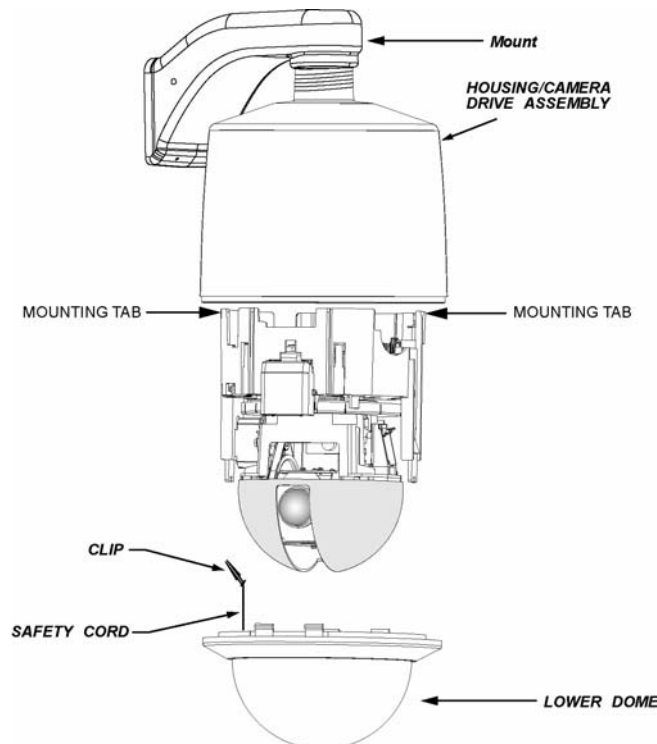

Figure 10
After all the cabling is complete, push the SurveyorVFT camera mechanism straight up into the housing. Align the 2 slots on the camera mechanism with the tabs in the enclosure, being sure to match up the arrows on both the mechanism and in the enclosure. Insert the camera mechanism into the enclosure until it snaps into place. Refer to Figure 10.
After the camera/lens is properly adjusted, the lower dome can be installed. Lift the lower dome up to the SurveyorVFT and insert the clip of the safety cord from the lower dome into the hole provided on the inside of the housing to anchor the lower dome. See label inside housing. Holding the lower dome, align the two (2) molded tabs on the lower dome with the recesses on the inner enclosure. Press the lower dome into the SurveyorVFT and verify that it snaps into place on both sides. Refer to Figure 10.
After the camera/lens is properly adjusted, the lower dome can be installed. Lift the lower dome up to the SurveyorVFT and insert the clip of the safety cord from the lower dome into the hole provided on the inside of the housing to anchor the lower dome. See label inside housing. Holding the lower dome, align the two (2) molded tabs on the lower dome with the recesses on the inner enclosure. Press the lower dome into the SurveyorVFT and verify that it snaps into place on both sides. Tighten the four (4) trim ring screws to hold the lower dome in place. Refer to Figure 10.